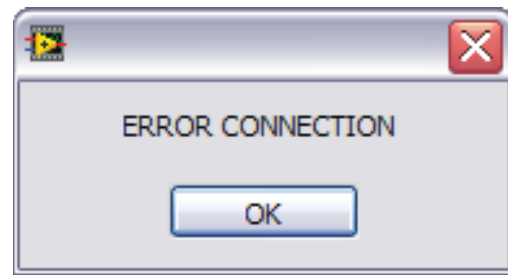

Figure 3. Error Message
3. If the SDP board is not connected to the evaluation boards, a message box appears as shown in Figure 3. Check the connection between the SDP and the EVAL-AD7294-2SDZ boards and run the program again.